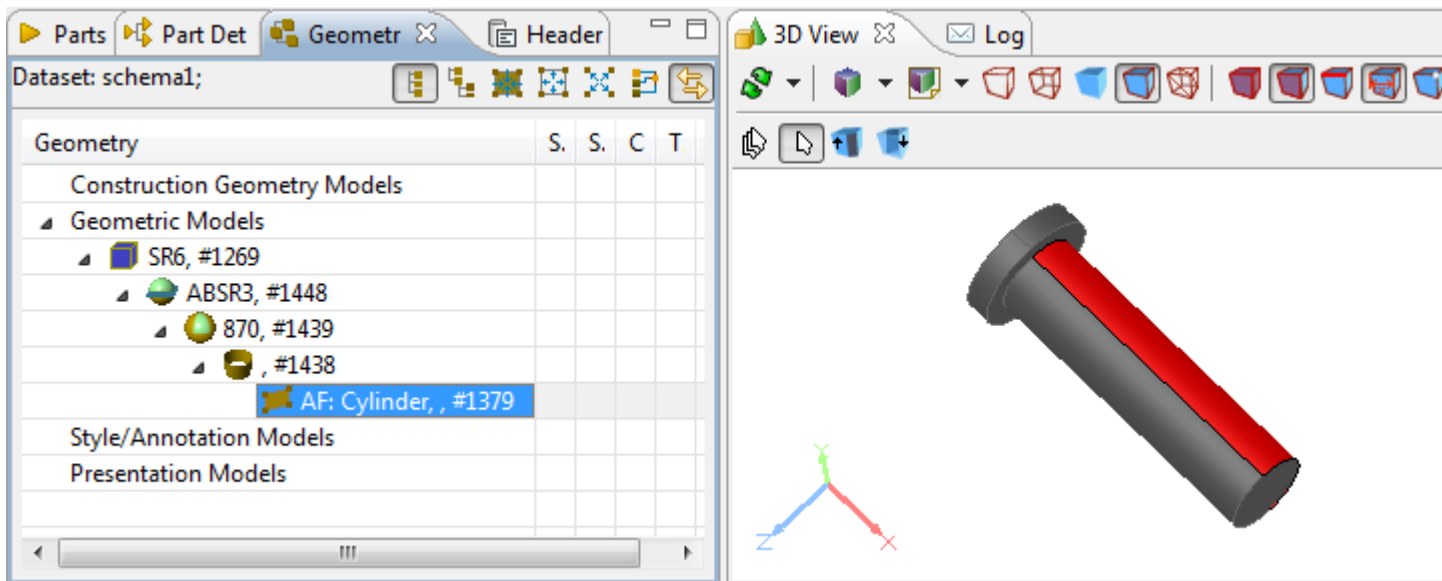

Figure 4. Selected surface in 3D view is highlighted in Geometry Details view tree (Cylinder, #1379)
- Select the first face to be merged on the 3D geometry object in the **3D View** (see Figure 4).